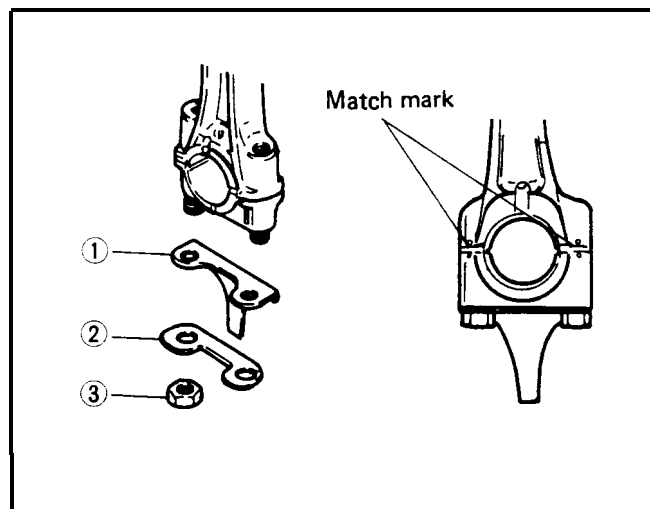

Figure 101
9. Mount the rod, splasher, lock plate and rod cap to the crankshaft as shown in Figure 101. Take note of the match marks on the rod cap and rod for proper assembly.